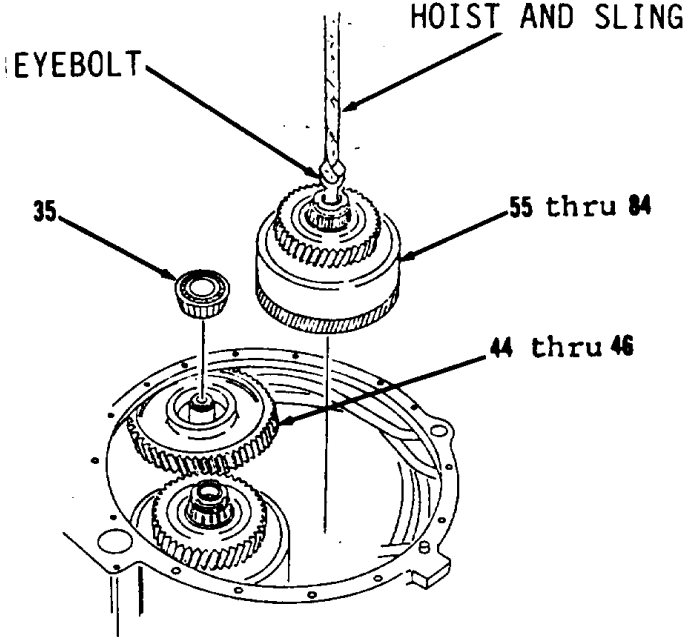

Figure 14-9.
- 34. Lift up and push down on items 44 thru 46 as an assembly to free roller bearing (35, Figure 14-9).
- 35. Remove roller bearing (35).